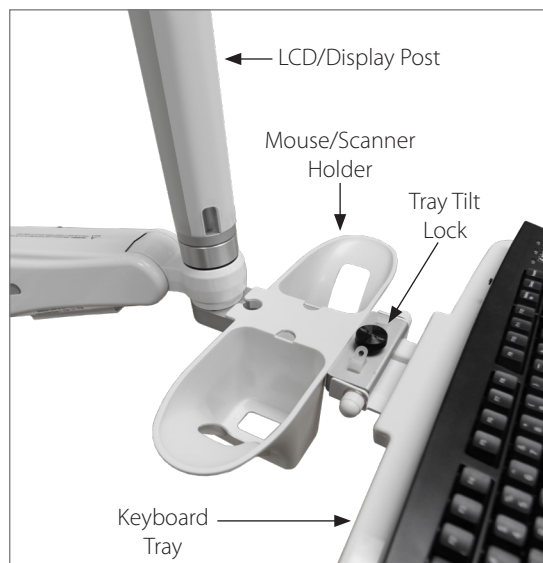

Figure 1
i NOTE: The mouse/scanner holder is a plastic basket. It is placed in between the LCD/Display Post and the keyboard tray for easy access (**Figure 1**).
1. Place the mouse/scanner holder on the block between the LCD/Display Post and the keyboard tray, the holder should snap onto the sides of the block as well as into the keyhole in the center (**Figure 1**).